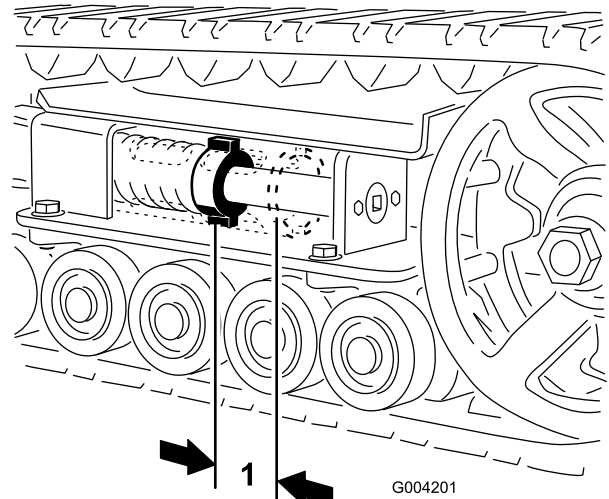
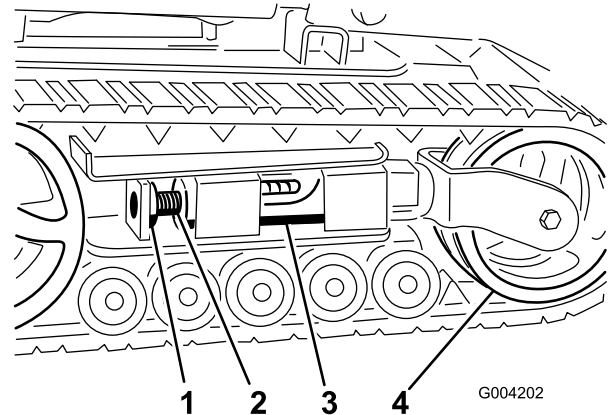
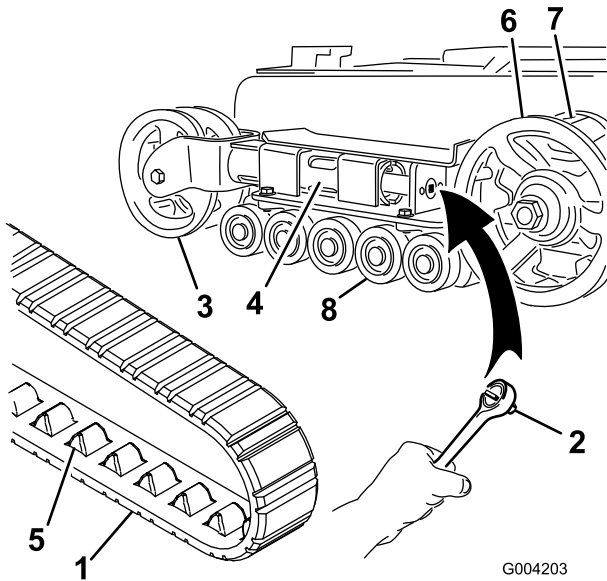
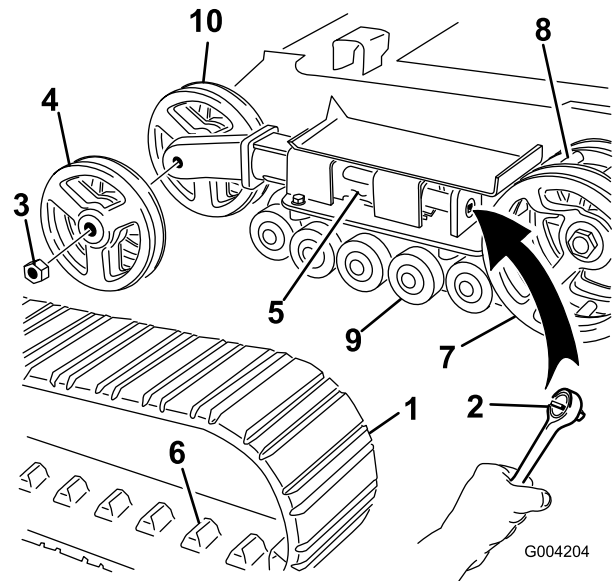

Figure 47
Figure 48
Figure 49
Figure 50
There should be 7 cm (2-3/4 inches) between the tension nut and the back of the tension tube (Figure 47). If not, adjust the track tension using the following procedure:
3. Remove the locking bolt and nut (Figure 48).
4. Using a 1/2 inch drive socket (Figure 49), turn the tensioning screw counter-clockwise until the distance between the tension nut and the back of the tension tube (Figure 47) is 7 cm (2-3/4 inches).
5. Align the closest notch in the tension screw to the locking bolt hole and secure the screw with the locking bolt and nut (Figure 48).
4. Using a 1/2 inch drive socket, release the drive tension by turning the tensioning screw clockwise (Figure 48 and Figure 49).
5. Push the tension wheel toward the rear of the unit to move the fork tube against the frame (Figure 49). (If it does not touch the frame, continue turning the tensioning screw until it does.)
7. When the track is off the tension wheel, remove it from the drive sprocket and road wheels (Figure 49).
8. Beginning at the drive sprocket, coil the new track around the sprocket, ensuring that the lugs on the track fit between the spacers on the sprocket (Figure 49).
9. Push the track under and between the road wheels (Figure 49).
11. Turn the tensioning screw counter-clockwise until the distance between the tension nut and the back of the fork tube (Figure 47) is 7 cm (2-3/4 inches).
4. Using a 1/2 inch drive socket, release the drive tension by turning the tensioning screw clockwise (Figure 48 and Figure 50).
5. Push the tension wheel toward the rear of the unit to move the tension tube against the frame (Figure 50).
6. Remove the nut securing the outer tension wheel and remove the wheel (Figure 50).
7. Remove the track (Figure 50).
8. Remove the nut securing the inner tension wheel and remove the wheel (Figure 50).
12. Install the inner tension wheel and secure it with the nut removed previously (Figure 50).
14. Install the new track, ensuring that the lugs in the track fit between the spacers in the middle of the drive sprocket (Figure 50).
15. Install the outer tension wheel and secure it with the nut removed previously (Figure 50).
17. Turn the tensioning screw counter-clockwise until the distance between the tension nut and the back of the tension tube (Figure 47) is 7 cm (2-3/4 inches).